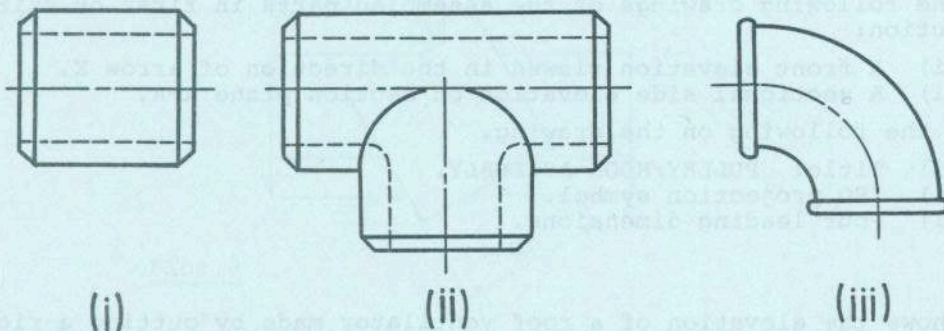

FIG. 6 FIGOR 6
- (c) Identify the standard pipe fittings, (i), (ii) and (iii) shown in Figure 6.